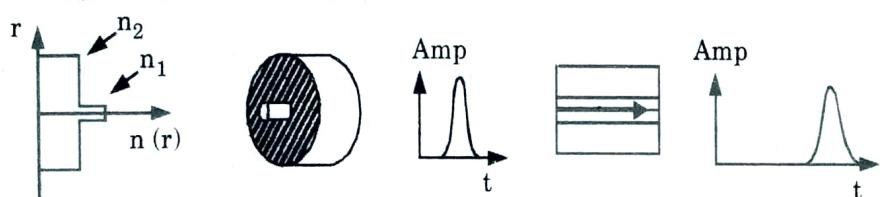

Fig. 2.8.2. An illustration showing the pulse broadening due to inter model dispersion in each fiber type.
8. Fig. 2.8.2 shows the three common optical fiber structures, multimode step index, multimode graded index and single mode step index and also shows pulse broadening associated with each fiber type.